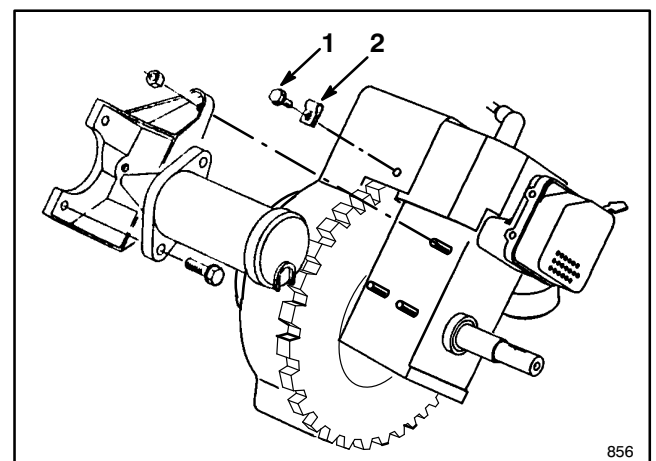

Figure 4
4. Remove screw and r-clamp (Fig. 4) and save for reinstallation.